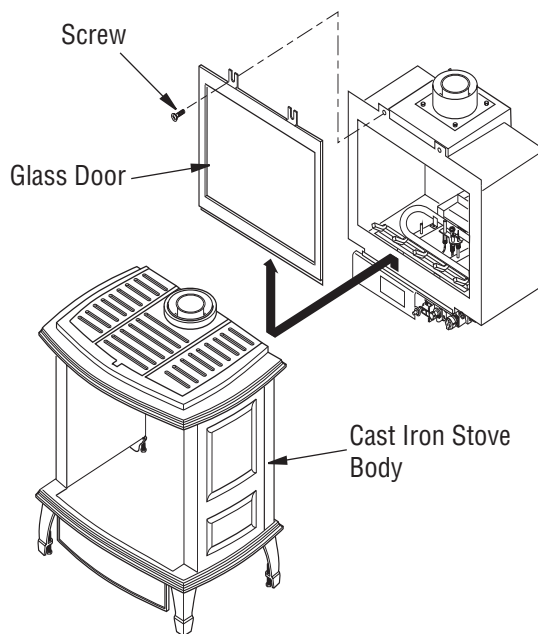

Figure 27 - Removing Glass Door from Burner System
2. Remove screws from 2 tabs at top of glass door while holding door securely keeping it from falling forward (see Figure 27).
3. Grasp door by both sides and ease it upward off of lower bracket (see Figure 27).